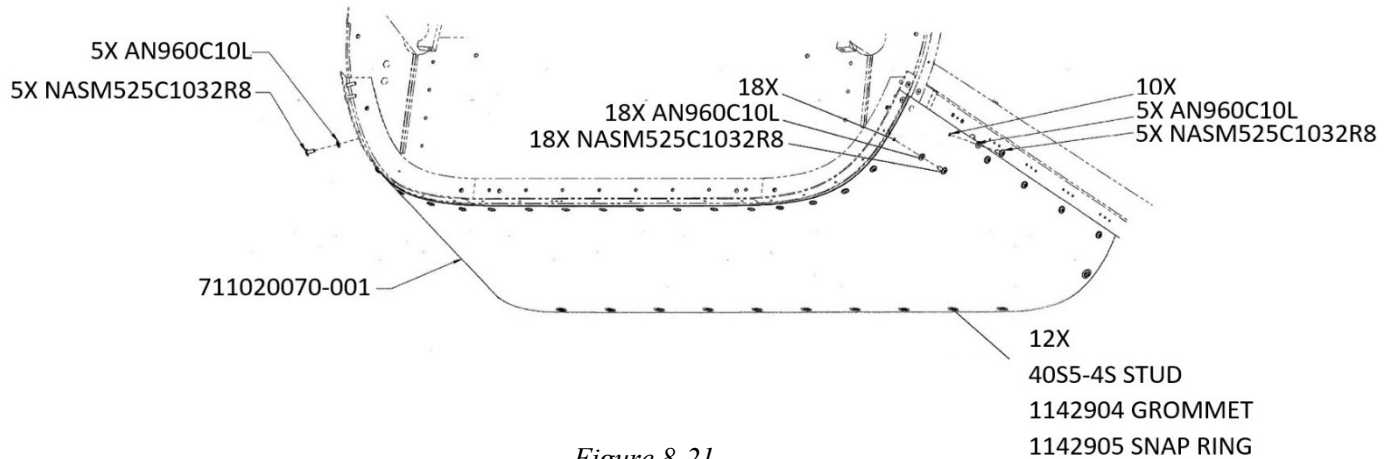

Figure 8-21
- T. Prepare FWD Cowl Skin 711020070-001 for installation. See Figure 8-21.
- Match drill (28) .1935" dia. holes at FWD firewall lower frame existing holes and C-Channel nutplate locations.
- Match drill (12) (12mm) .471" dia. holes at Cowl Support Assembly Camloc locations.
W. Install using hardware in Figures 8-21 & 8-22.